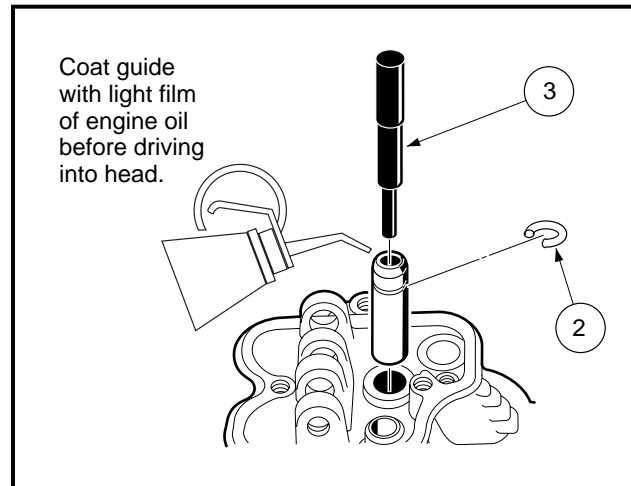

Figure 13-20 Valve Guide Installation
2. Install the snap ring (2) on the new valve guide (**Figure 13-20, Page 13-14**).
4. With the rocker arm side of the head facing up, drive the new valve guide into the head with the valve guide arbor (3) until the snap ring (2) just seats on the head (**Figure 13-20, Page 13-14**).